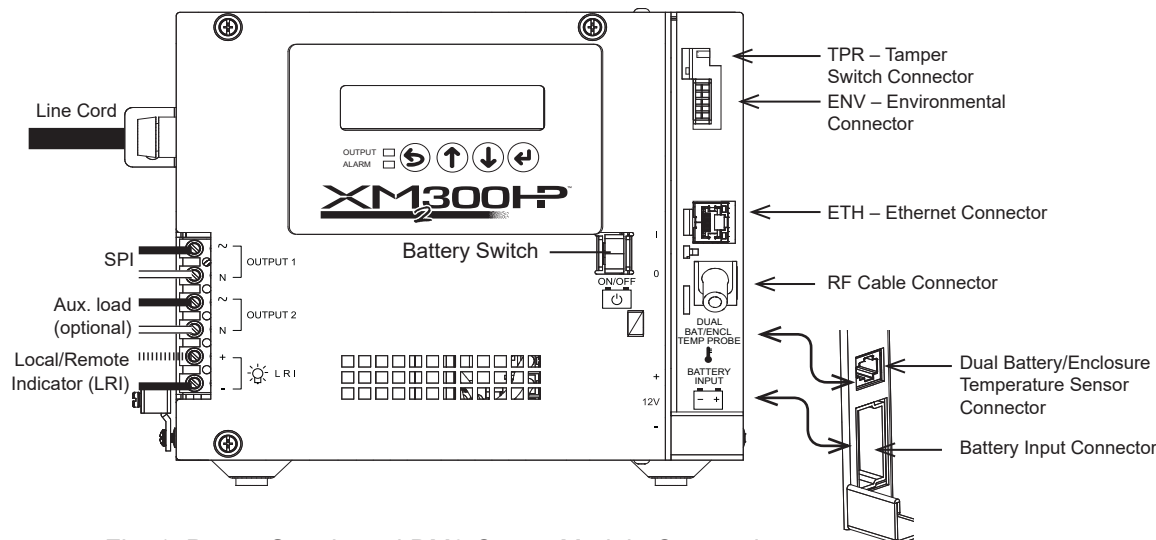

Fig. 1, Power Supply and DM3 Comm Module Connections
5. Insert the (+) and (-) power leads for the optional Local/Remote Indicator (LRI) cable as indicated in Fig. 1. Tighten to 7.0 lbf•in / 0.8Nm.